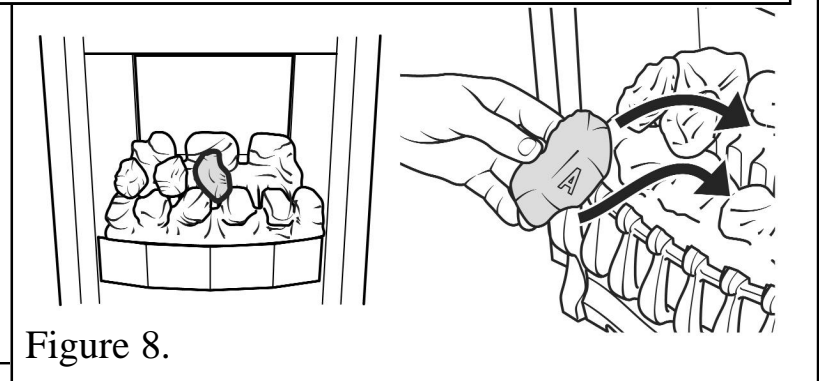

Figure 8.
5. Place a type “A” coal between the front and rear base coals with the letter “A” upright. The top of the coal should rest against the centre coal of the rear base coal as shown in figure 8.